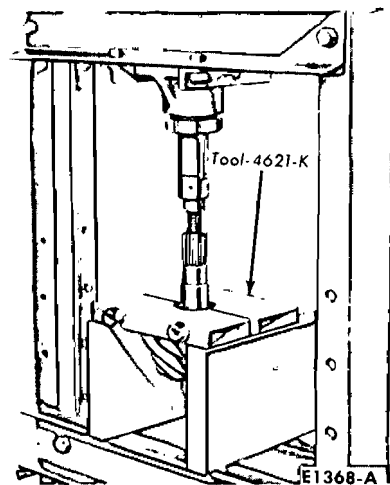

FIG. 39—Removing Pinion Rear Bearing Cone
5. Press the pinion shaft out of the pinion rear bearing cone (Fig. 39).